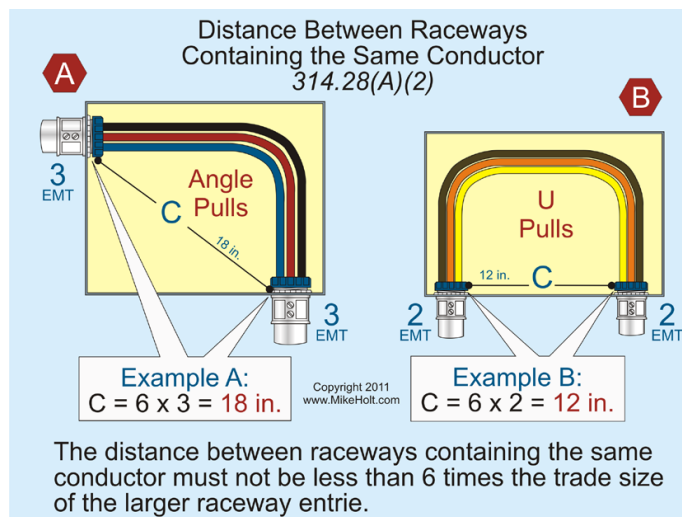

Figure 5-50
- **Distance Between Raceways.** The distance between raceways enclosing the same conductor must not be less than six times the trade size of the largest raceway, measured from the raceways' nearest edge-to-nearest edge. **Figure 5-50**